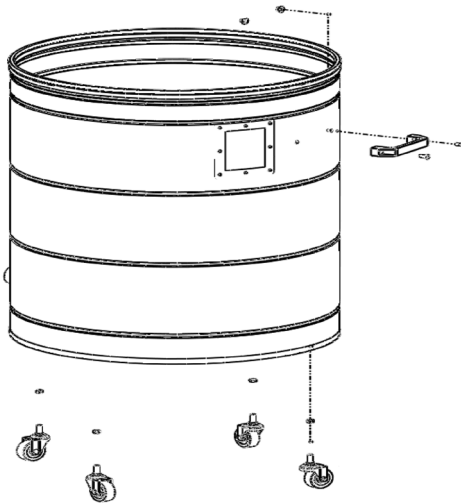

FIG. 4.12
12. Attach the (4) 2" swivel casters to the collection drum, using (1) 5 / 16" hex nut on each. Adjust the pre-installed flange nut and hex nut until the drum rolls evenly without rocking or wobbling, then tighten both nuts to secure each caster in place. Attach the collection drum handle with (2) Phillips hd screws 1/4" x 5/8" and (2) acorn nuts 1/4". Insert the large plastic dust bag inside the collection drum, and fold the excess length of bag over top of collection drum. (Fig. 4.12)